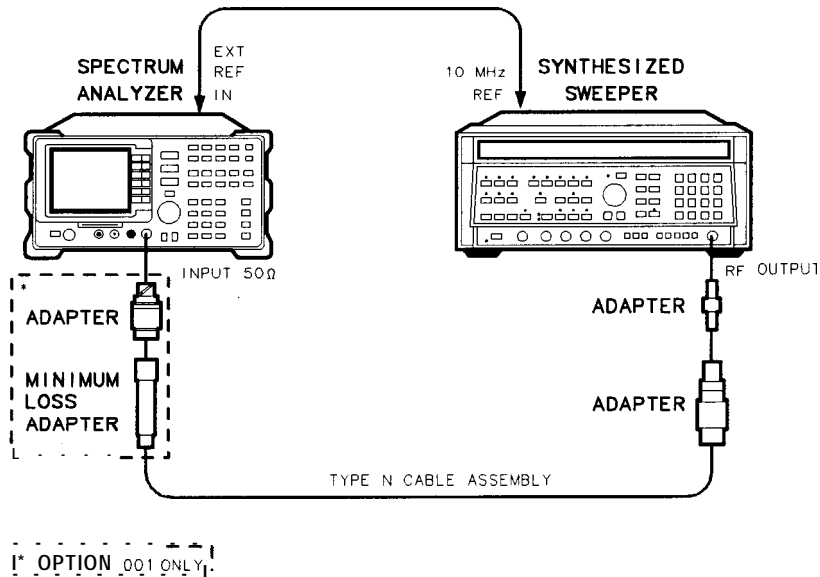

Figure 1-2. Frequency Readout Accuracy Test Setup for Option 013
1. Connect the equipment as shown in Figure 1-2. Remember to connect the 10 MHz REF OUT of the synthesized sweeper to the EXT REF IN of the spectrum analyzer.